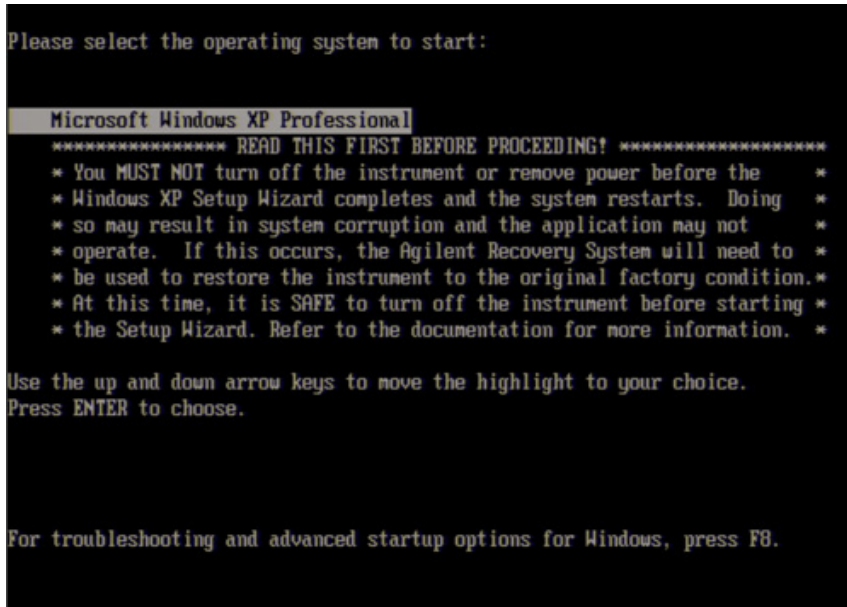

Figure 12 System start up screen in Windows Vista Business (1/2)
Step 2. The screen as shown in the **Figure 12** appears. Select **Microsoft Windows XP Professional** and press [Enter].